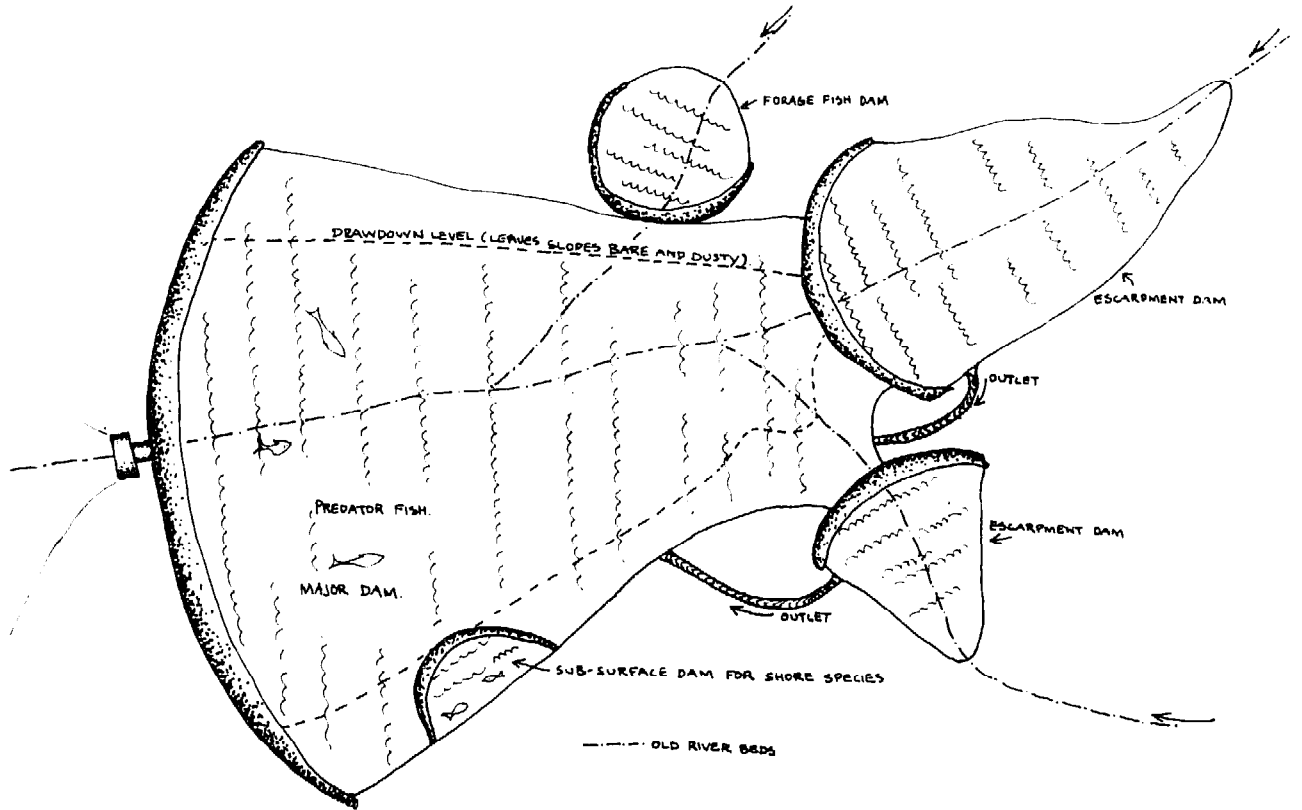

FIG. 7.7: "PERCHED" DAMS AT EDGES OF MAJOR IMPOUNDMENTS. AT DRAWDOWN LEVEL, THESE RETAIN SHORELINE SPECIES, AND FORM ESCARPMENTS FOR FORAGE FISH OR FRY.
Rather than attempt a species design for aquaculture, I have concentrated here on both broad and detailed construction designs, so that people might extract from these for their own sites, and (hopefully) public authorities may reform their simplistic approach to impoundments by the modifications suggested in figs. 7.7, 7.8 & 7.9.
*Perched ponds* are small settling, filter, or frog ponds perched above larger storages. (Fig. 7.7)